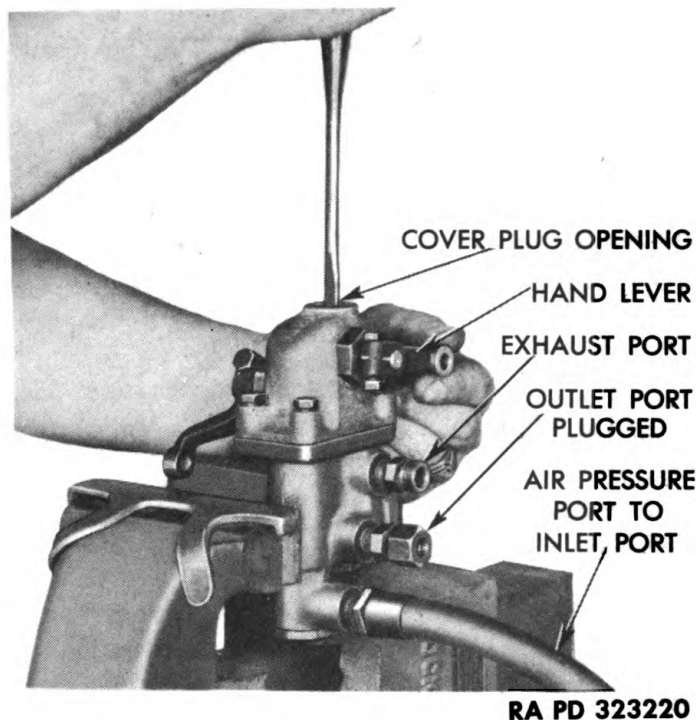

Figure 226 — Adjusting Air and Electric Brake Control Valve
f. Adjust (fig. 226).
(1) Apply air pressure to inlet port (lower opening). **CAUTION:** *Be sure air supply is clean, or valve will be filled with foreign matter.* Plug outlet port (center opening). Rotate rocker arm shaft (upper shaft) by moving hand lever until actuating valve is just unseated. Inserting screwdriver through cover plug opening in valve cover, screw in rocker arm adjusting screw until an air leak is heard through exhaust port. Then let upper shaft return to its stop.
(2) Back off rocker arm adjusting screw three-quarters of a turn, and tighten lock nut securely.
(3) Install cover plug and gasket in housing cover.